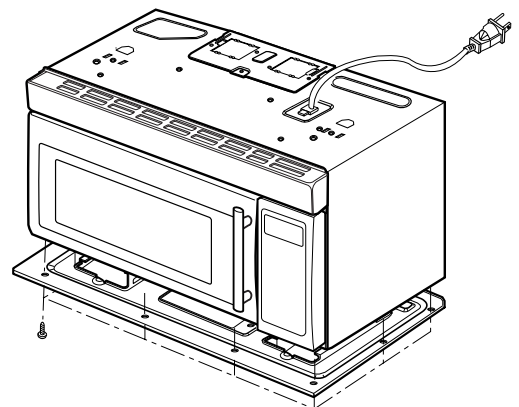
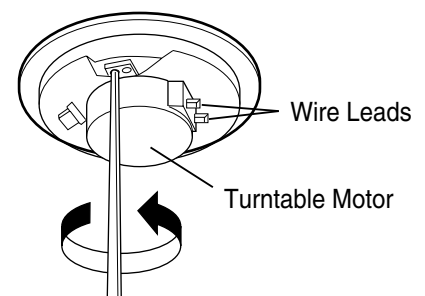

Figure 20
Figure 21
- (3) Remove the base plate by removing 8 screws securing it to the oven cavity. (Figure 20)
- (4) Disconnect the leadwire from the turntable motor terminals.
- (5) Remove the 1 screws securing the turntable motor to the oven cavity ASS'Y. (Figure 21)